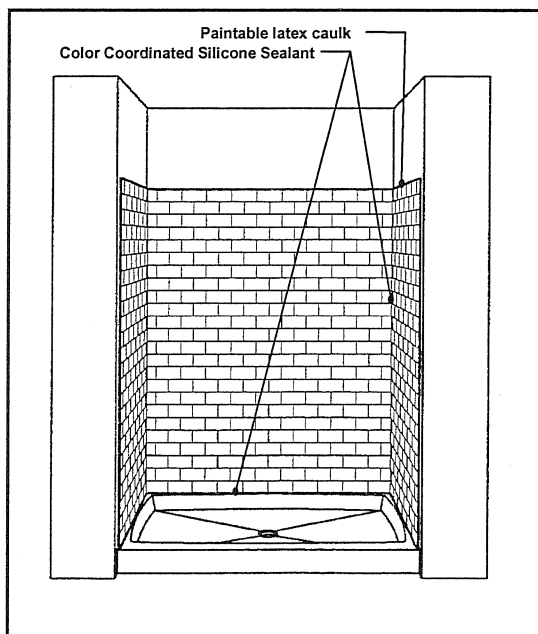

Fig. 9
- Step 12. Remove the bracing and cut holes in the panels for any applicable accessories. Refer to Accessory Installation Instructions for installation of soap or shampoo holders. Clean all joints with solvent. Make sure the joint is clean as excess adhesive or other foreign material can prevent a good bond or cause the silicone sealant to discolor. Apply a bead of silicone to one of the joints and then tool the joint within 5 minutes with the supplied "Perfect Bead" tool. Do not touch the silicone seal after 5 minutes. Please refer to instructions packed with the silicone adhesive and sealant for in depth detail on this step. The excess silicone that is squeezed out by the tool can be cleaned up most easily by waiting until the silicone has "set" (about 30 minutes), then scrape the excess "firm" silicone from the panels with a plastic spoon (the plastic spoon will not scratch the surface of the **TERE-STONE**® panels or base, do not use metal). The joint between the **TERE-STONE**® panel outside edge and the wall surface may be sealed with a paintable acrylic latex caulk (not supplied). See Fig. 9.